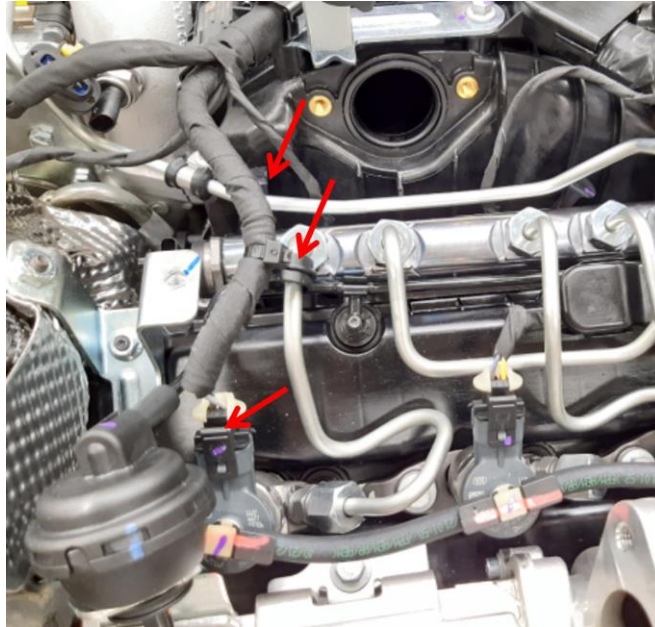

Figure 10
21. Connect the electrical connectors for the #3 glow plug and fuel injector. Secure the harness to the #3 fuel injector supply line. Please see (Figure 10).